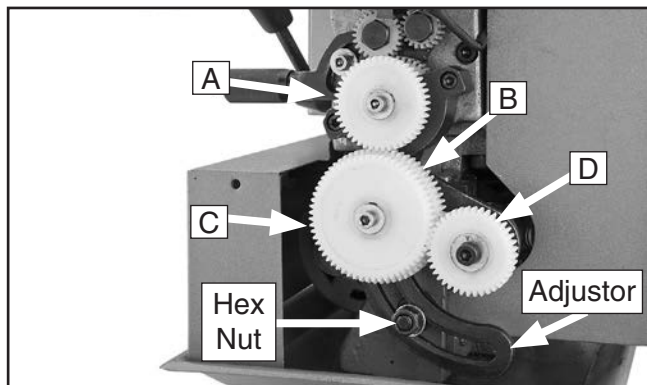

Figure 52. Adjuster and change gears.
5. Loosen hex nut shown in **Figure 52**, and pivot adjuster down to disengage gears from each other.
6. Remove existing A, B, C and D change gears (see **Figure 52**). **Note:** Some gears may be difficult to remove due to excess grease and debris. Once they are removed, clean gears with mineral spirits and wipe them down with a clean rag.